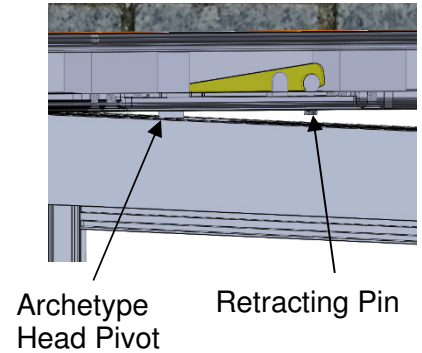

Figure 15:
1. Retract Archetype Head Pivot pin by turning retracting pin screw counter clockwise (Figure 15).
5. Align the two portions of the Archetype Head Pivot and turn the retracting pin screw clockwise (Figure 15).